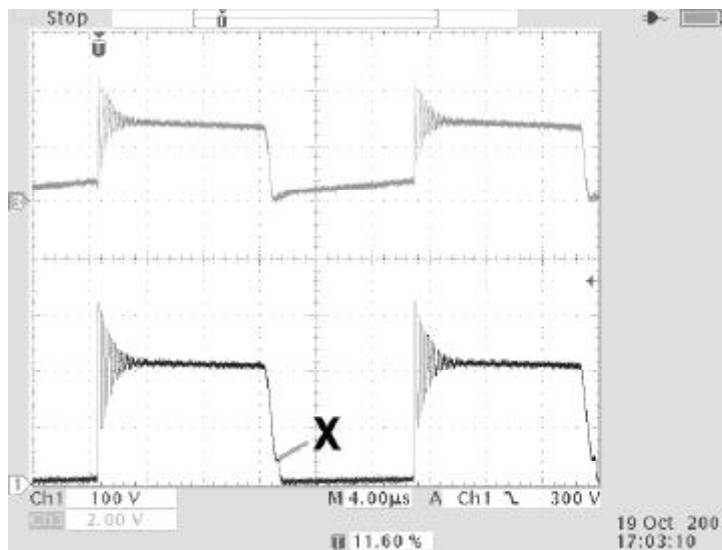

Fig 2) Drain (D) voltage of IRIS4013K (CH1) and FB voltage (CH3) 90VAC in Full load
Once the output capacitors C7 & C8 and the Vcc capacitor C9 are fully charged, the complete quasi-resonant signal can be passed through the mode switching circuit & delay circuit D4/Q1/R11/D6 to the feedback (FB) pin. This will happen only if the Bias winding voltage is above the switching threshold of the mode switching circuit (the operation of the mode switching circuit will be discussed in the next section). This will give a voltage above the V_{th2} threshold of the IRIS4013K, and this activates the quasi-resonant operation, holding the internal FET off until all the energy is transferred from the primary side of the transformer to the secondary and bias outputs. When all the energy is transferred, the quasi-resonant signal at the FB pin will start to fall until it can no longer supply the 1.35mA required by the IRIS4013K internal latch, and the FET is turned back on. This is also the lowest point of the resonant voltage at the drain pin of the IRIS4013K (shown as point X in fig2), so results in reduced switching losses.
Fig 2) shows the drain voltage of the IRIS4013K and the FB voltage with full load output at 90VAC input. Note that point X marked on the drain waveform shows the detection point for the quasi-resonant signal which is the lowest point on the drain waveform after the energy is transferred.